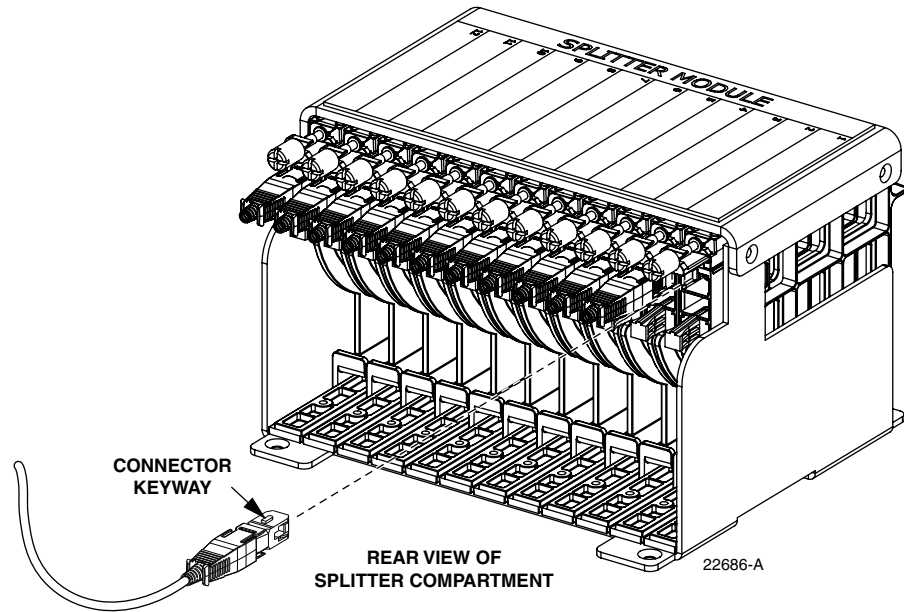

Figure 41. Feeder Cable Connector - Typical Compartment Shown
3. Remove the corresponding feeder cable connector(s) from the rear of the splitter compartment as shown in Figure 41.
3. Remove the feeder cable connector(s) from the rear of the splitter compartment (see Figure 41).